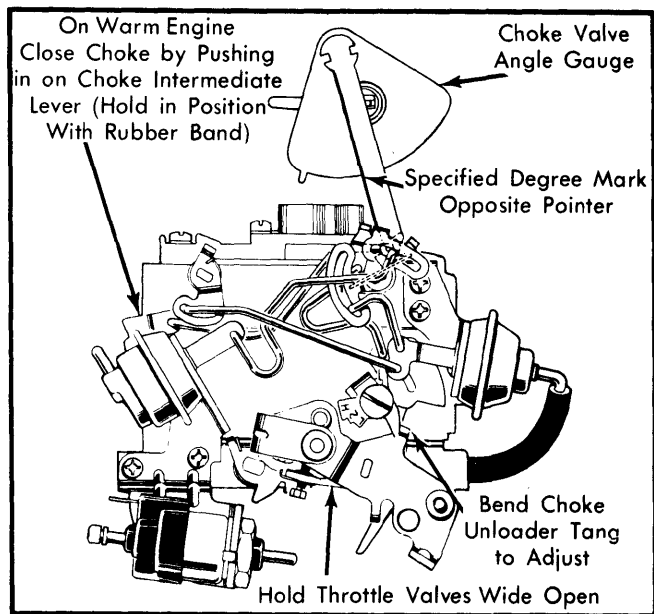

Fig. 9 Adjusting Choke Unloader
- 1) Automatic choke should be set to specified setting. Do not adjust setting unless carburetor is to be overhauled or unless choke coil lever adjustment is necessary. Hold primary throttle valve wide open. See Fig. 9.